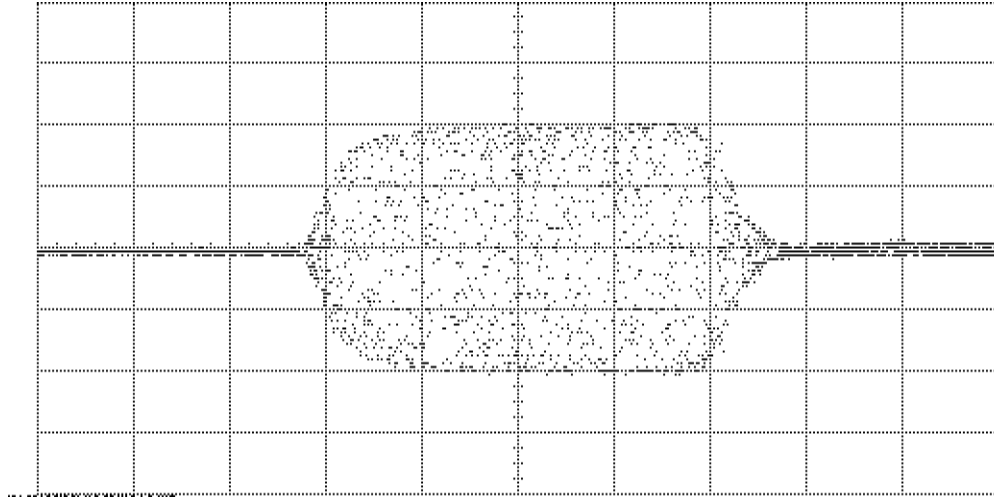

Figure 1-5. Pulse Modulation Example
6. Use the DELAY function on the oscilloscope to position the pulse envelope on the display. The oscilloscope display should appear as shown in Figure 1-5.
7. If the modulated pulse similar to that shown in Figure 1-5 is not present, continue troubleshooting with A3 Modulation Check in this manual.
8. If the modulated pulse similar to that shown in Figure 1-5 is present, the pulse function is operating. Continue with the next procedure.